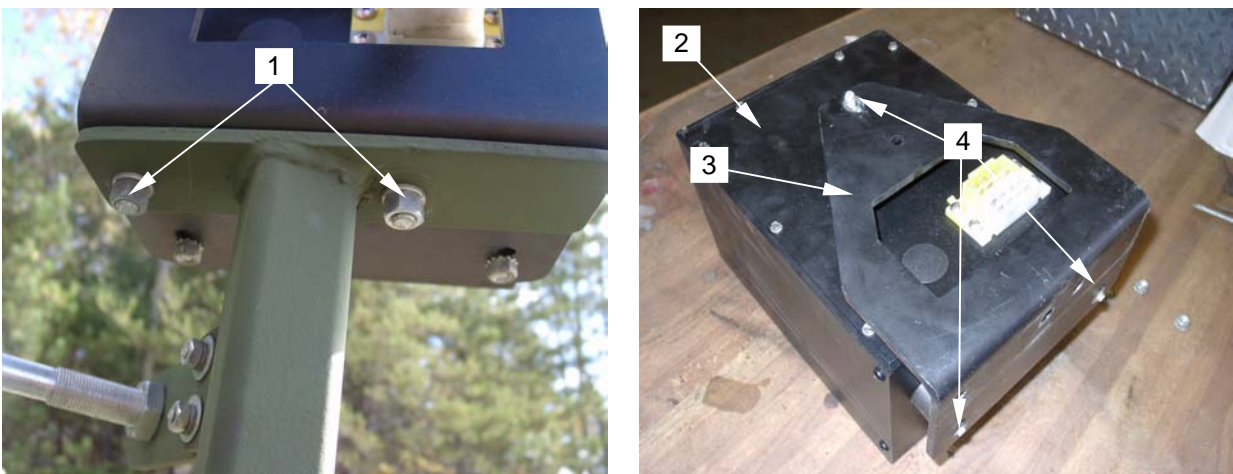

Figure 3. Removing Control Box Hardware
2. Remove two hex nuts (**figure 3, item 1**) securing the control panel (**figure 3, item 2**) to the bottom of the control post bracket.
3. Remove control panel (**figure 3, item 2**) and bracket (**figure 3, item 3**) from control post. Remove the hex nuts (**figure 3, item 4**) securing the control panel (**figure 3, item 2**) to the bracket (**figure 3, item 3**).